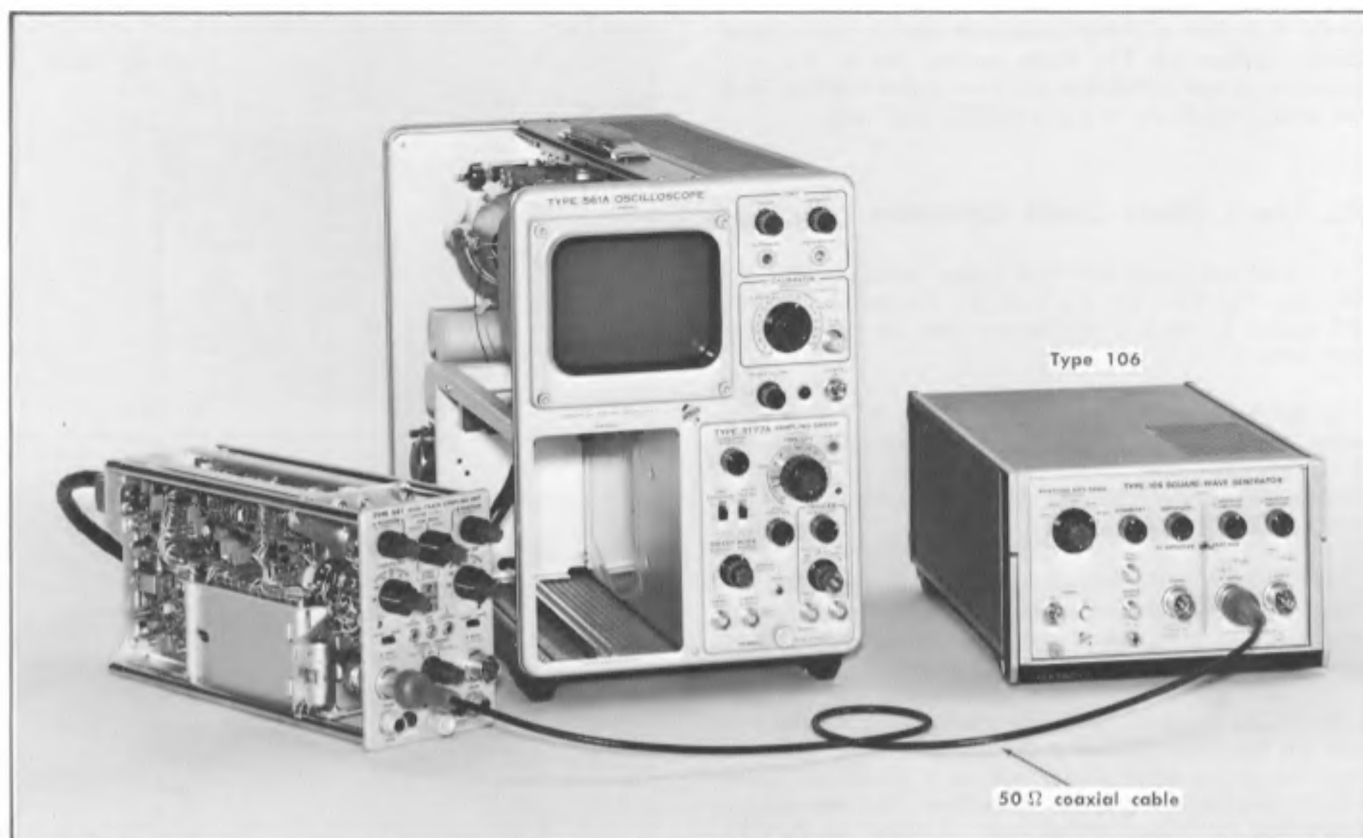

Fig. 8-29. Equipment and connections for Step 24.
a. Make the connections and control settings called out under Fig. 8-29. Adjust the Timing Unit for a stable trig-